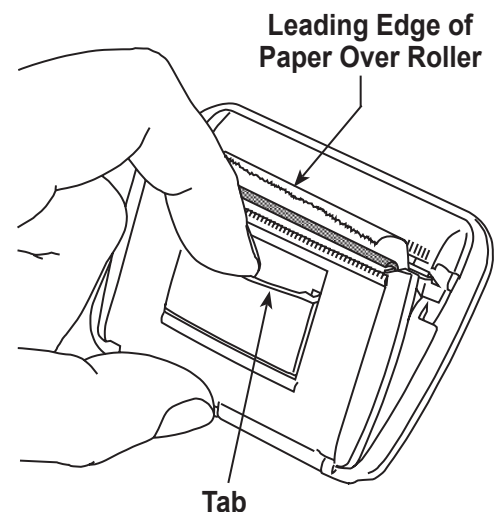

Figure 10
1. Remove the cover on the printer by pulling out on the tab as shown in Figure 10.